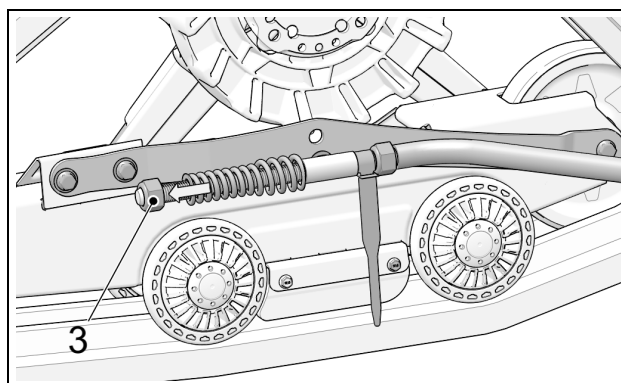

Figure 9
- Loosen nut (3) compressing stabilizing rod spring. See Figure 9.